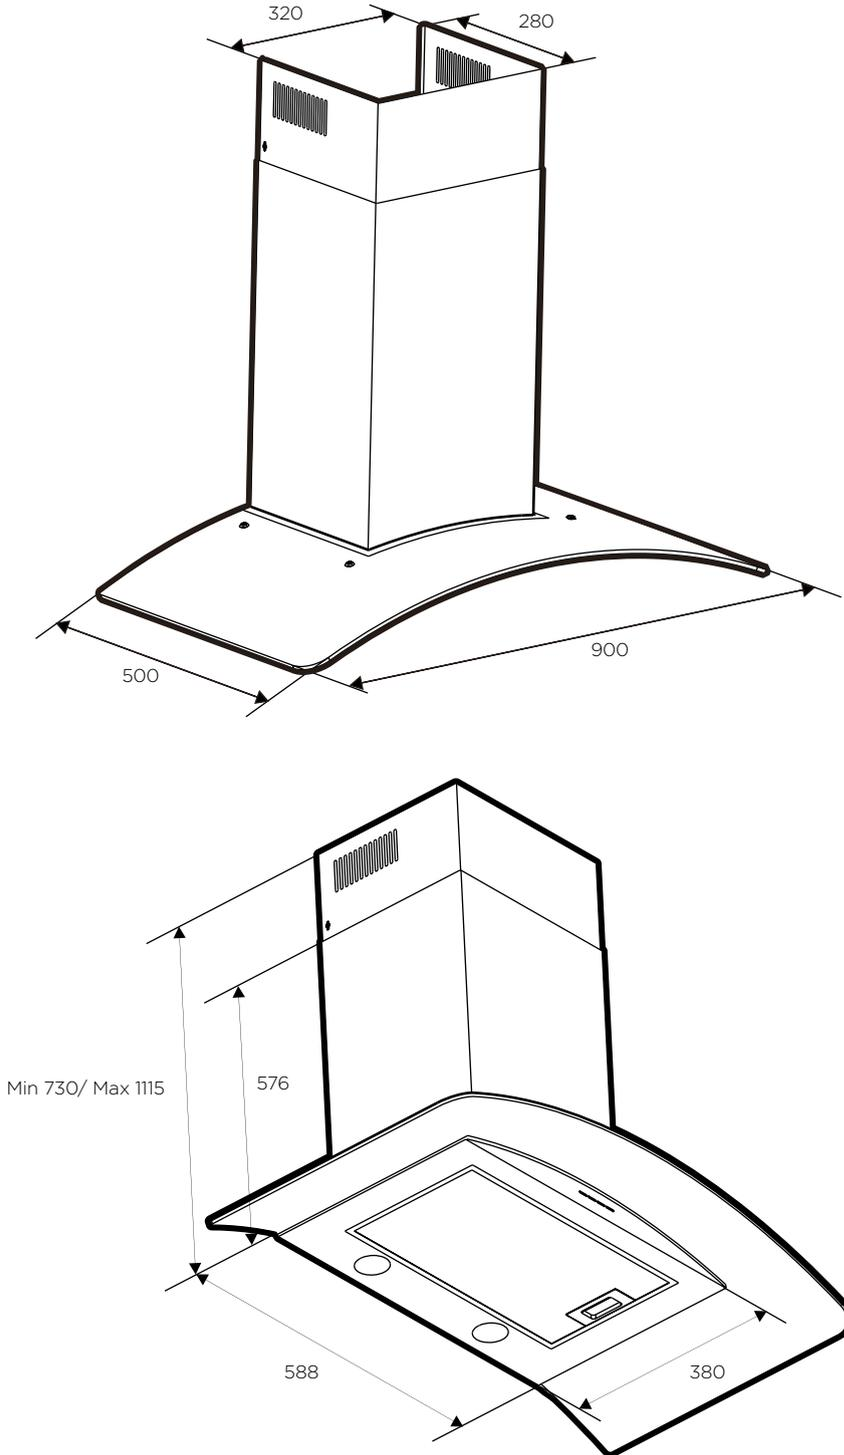

Fig. 4
- Using a spirit level mark a vertical centre line on the wall where the hood is to be positioned, and a horizontal line at the hood base position. (See Fig. 4, or 5 for relevant model).